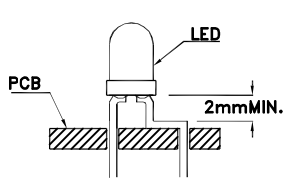

Fig. 5
4. Maintain a minimum of 2mm clearance between the base of the LED lens and the first lead bend. (Fig. 5 and 6)